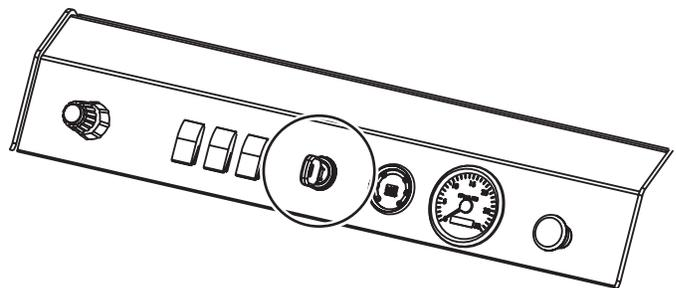

Figure 34. ON/OFF Switch
5. Turn the Ignition Switch to the ON position. (Figure 34.)